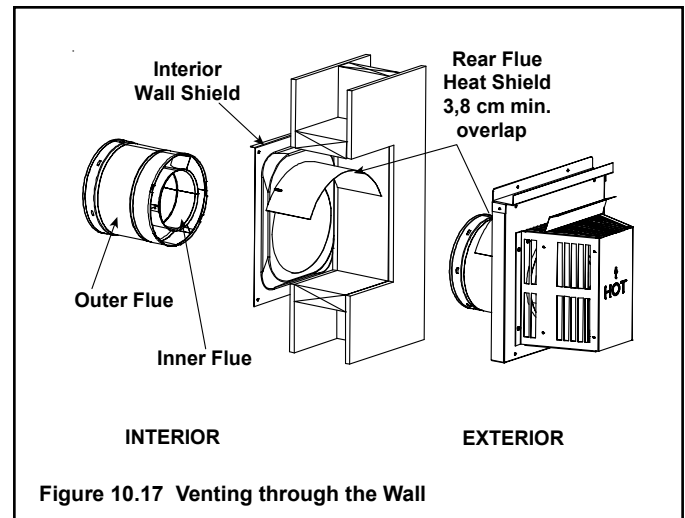

Figure 10.17 Venting through the Wall
- One section of the heat shield is attached to the wall shield. The other is attached to the termination cap in the same manner (see Figure 10.17).
- The small leg in the shield rests on top of the flue to properly space it from the pipe section (see Figure 10.17).
- **DO NOT** remove the heat shields attached to the wall shield firestop and the horizontal termination cap (shown in Figure 10.17).
There are two sections of the heat shield. One section is factory-attached to the wall shield firestop. The other section is factory-attached to the cap. See Figure 10.17.